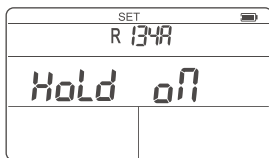

FIG. 11 Temperature Compensation Setting Interface
2. Short press the **MODE** button three times to switch to the temperature compensation setting [FIG.11].